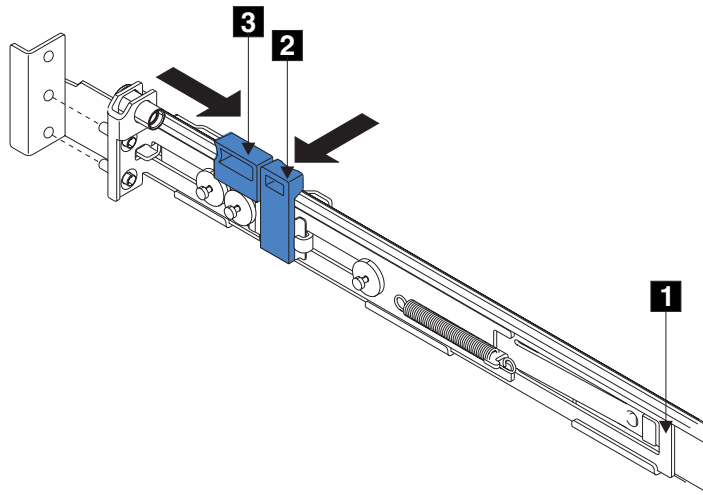

Figure 115. Opening the back latch-lock carrier assembly
5. Push the back rail bracket **1** (Figure 115 on page 131) toward the front of the rail until it stops. The rail is now at its shortest adjustment.